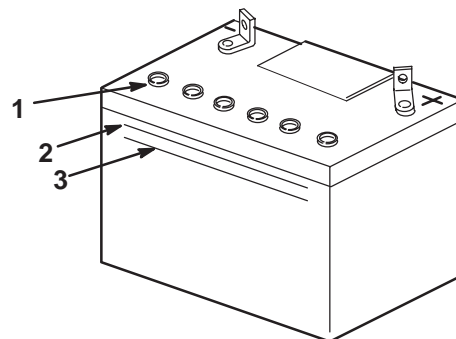

Figure 35
2. Look at the side of the battery. The electrolyte must be up to the Upper line (Fig. 35). Do not allow the electrolyte to get below the Lower line (Fig. 35).
- Remove the vent caps from the battery (Fig. 35).
- Slowly pour distilled water into each battery cell until the level is up to the Upper line (Fig. 35) on the battery case.
- Wait five to ten minutes after filling the battery cells. Add distilled water, if necessary, until the electrolyte level is up to the "UPPER" line (Fig. 35) on the battery case.